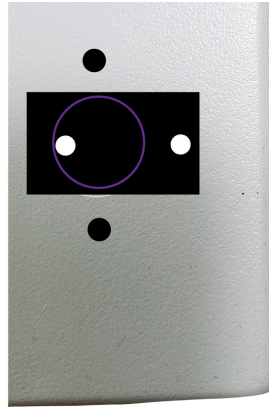

fig 2
- 3) On the outside of the box, insert the round portion of the plug into the motor through hole. Align the mounting plug as shown (fig 2). Allow the epoxy to dry for 15 minutes.